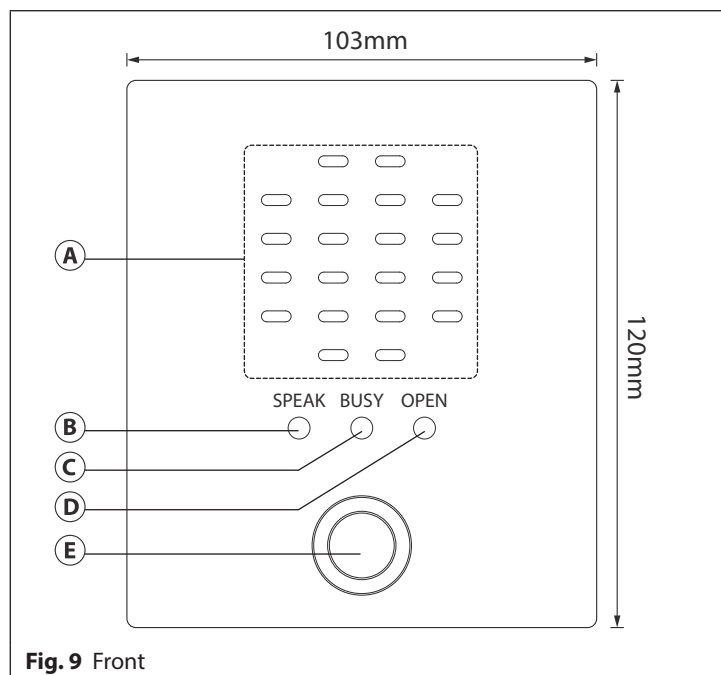

Fig. 9 Front
SPEAK (Yellow)	The speak LED (Fig.9, ⑧) when illuminated, indicates that it is possible to speak because the call has been answered or a call made to the GSM intercom (with the exception of a call from a dial to open (DTO) number). The LED will switch OFF at the end of a conversation when the telephone/mobile that has been dialled hangs up or at the end of the call time (SPT).
BUSY (Red)	The busy LED (Fig.9, ⑨) when illuminated, indicates that it is not possible to make a call because a call or a conversation is in progress. The LED will be OFF when the system is in standby. If there is power on the GSM intercom and the Art.432 antenna is not connected this LED will flash continuously until the antenna is connected. The LED will flash while connecting to a network and continue to flash until it has found the network.
OPEN (Green)	The open LED (Fig.9, ⑩) when illuminated, indicates that the door lock (GSM relay) has been operated. It will switch OFF at the end of the programmed "door opening" time. The LED will also illuminate and operate the relay (for the programmed relay, RLT, time) if a programmed key fob is presented to an off board Wiegand proximity reader that is connected to the Wiegand reader input connections.